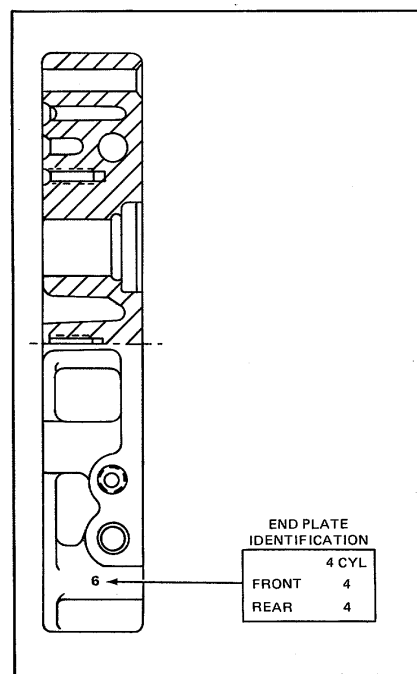

Figure 5. End Plate Identification
2. End plates are stamped with the last digit of its part number (Fig. 5). The end plate with a part number ending in 99 will have both numbers stamped in the plate.